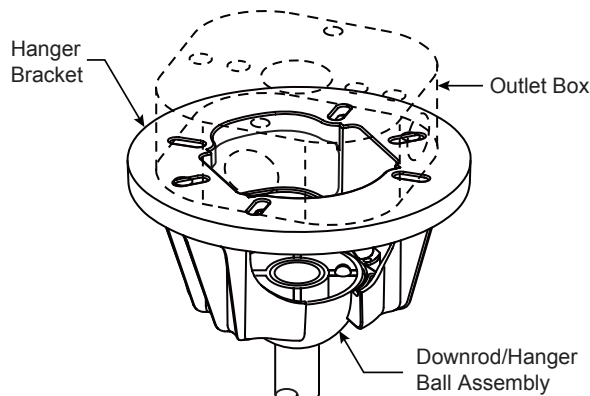

Figure 4
- 4. Slide downrod into the downrod support on top of the motor. Install the clevis pin by aligning the holes in the downrod support with holes in the downrod. Secure clevis pin with hairpin clip. Install and tighten the two set screws with nuts in the downrod support. (Figure 4)
3. Carefully lift the fan and seat the downrod/hanger ball assembly onto the hanger bracket that was just attached to the outlet box. (Figure 4) Be sure the groove in the ball is lined up with tab on the hanger bracket. (Figure 3)
3. Connect green wires from hanger bracket, hanger ball and ground from supply using wire connector. Connect black wire from receiver unit marked “AC IN L” to black supply wire using wire connector. Connect white wire from receiver unit marked “AC IN N” to white supply wire using wire connector. Connect white wire from receiver unit marked “TO MOTOR N” to white wire from fan using wire connector supplied with receiver unit. Connect black wire from receiver unit marked “TO MOTOR L” to black wire from fan using wire connector supplied with receiver unit. Lastly, connect blue wire from receiver unit to the blue fan light wire using wire connector supplied with receiver unit. Securely enclose the red supply wire with wire connector. (Figure 4)
4. Securely attach 9-pin connector from motor assembly to wiring harness socket within light plate/LED assembly. (Figure 4)
- 4.** To set the remote code same positions as the receiver with a small screwdriver or ball point pen (neither included), slide dip switches firmly up or down. (Figure 4)